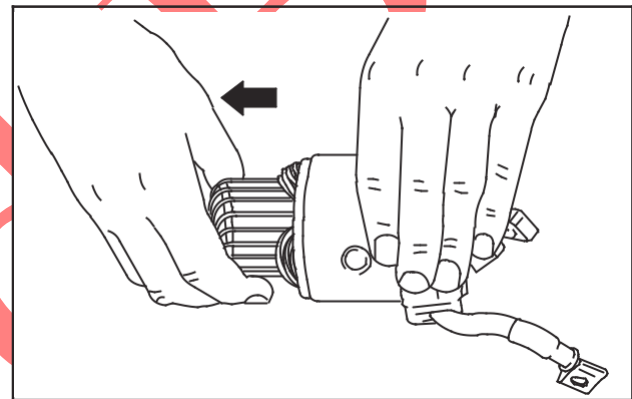

Fig. 67 – Disassemble Starter Motor
3. Remove armature from motor housing, Fig. 67.